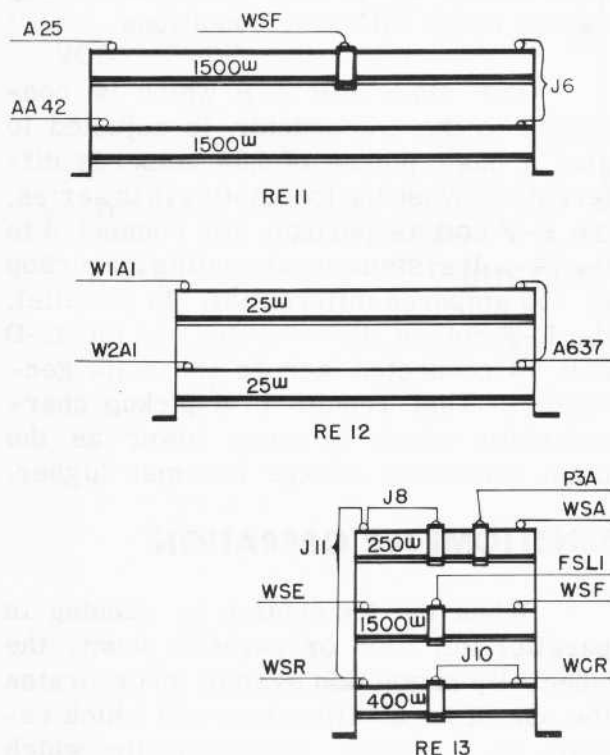

Fig. 1 - Wheel Slip Resistor Banks
► Operating in parallel full field, generator current will flow through the two series connected 1500-ohm resistors, see Fig. 1. Current will also flow through the 1500 and 6500-ohm resistors and the C-D coil of the WS relay. This current through the C-D coil causes it to bias the WS relay, to lower the pickup value and increase the sensitivity of the wheel slip system.
1. Move the P3A slide band, Fig. 1, on the 250-ohm resistor of RE13 to a point three-fourths of the tube length up from wire connection for J11. Move the J8 slide band on this same resistor to the approximate center of the resistor tube.